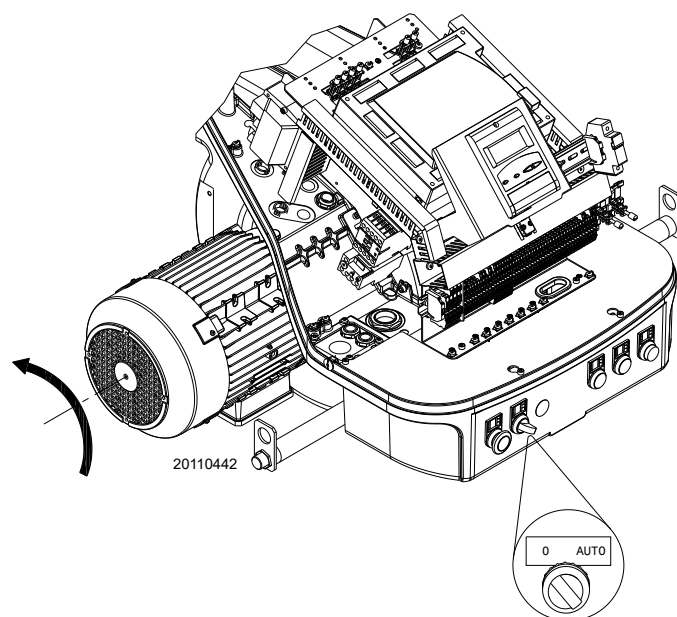

Fig. 30
Close the thermostats/pressure switches and turn the switch to Fig. 30 "AUTO".
If voltage is present, then **immediately** stop the burner and check the electrical wiring. When the burner starts, check the direction of the rotation of the motor, as shown in Fig. 30.
- place the switch of Fig. 30 in position "0" and wait for the control box to carry out the switch-off phase;
- working on the switch “**0-AUTO**” of Fig. 30 at page 30;